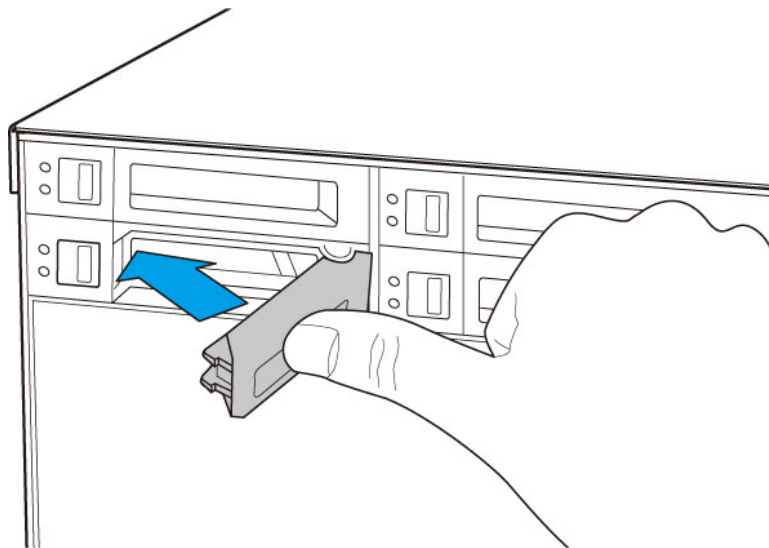

Figure 3-8: HDD Installation (Rear Panel)
Step 4: Insert the drive tray into the GRAND-C610-20C all the way to the end. Slide the latch to secure the drive tray. See **Figure 3-8**.